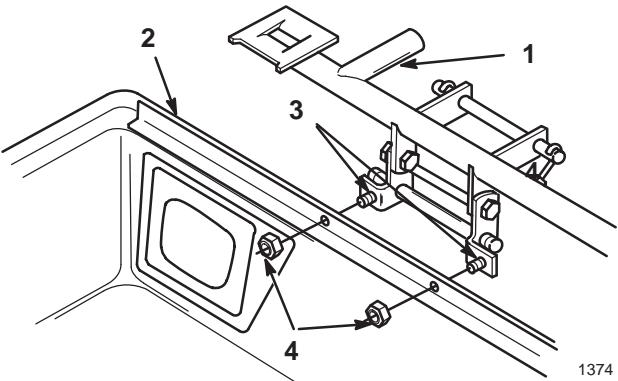

Figure 8
4. Mount the frame hinge to the cover with (1 $\frac{1}{4}$ " x 3 $\frac{1}{4}$ ") bolts (already in hinge)s. Secure with lock nuts (Fig. 8).